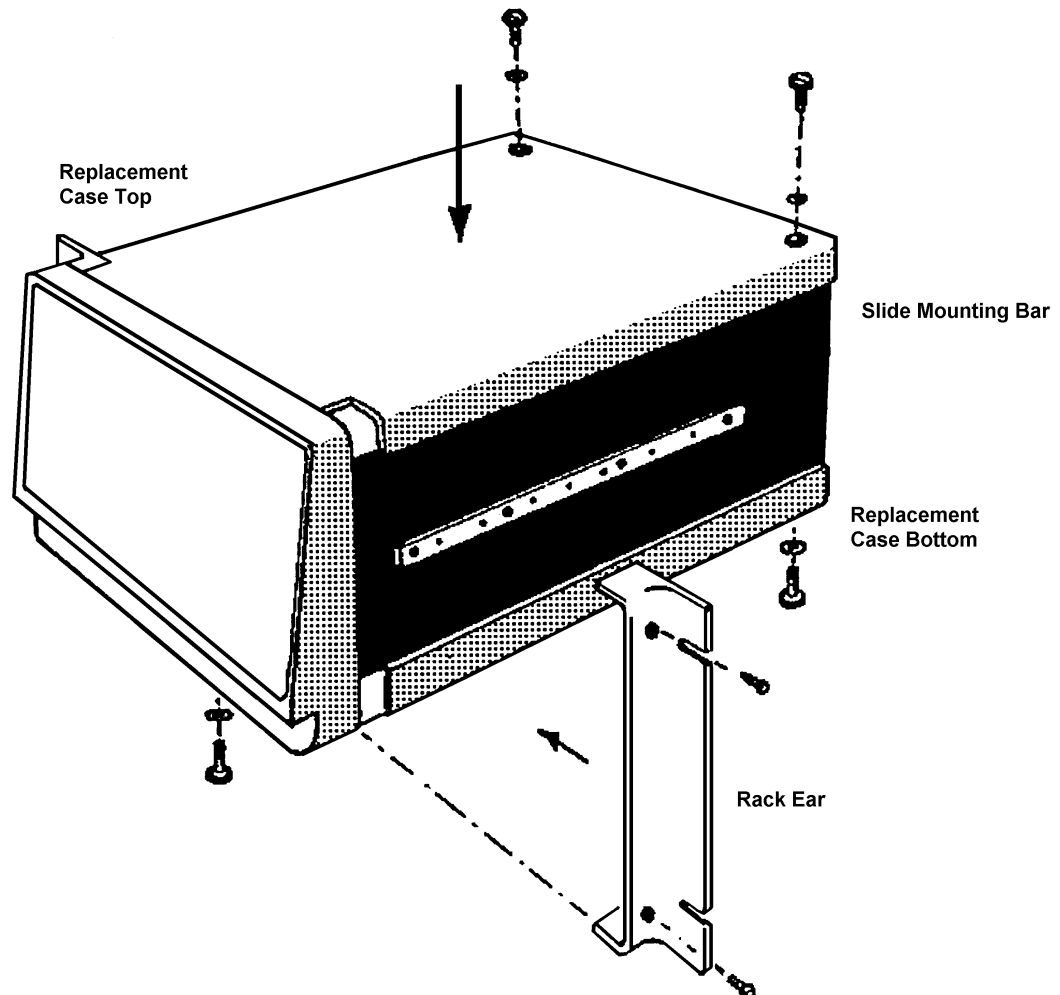

Figure 2.11 - Fitting the rack ears, slide mounting bar, and replacement cases
3. As shown in Figure 2.11, fit the following items to the instrument: